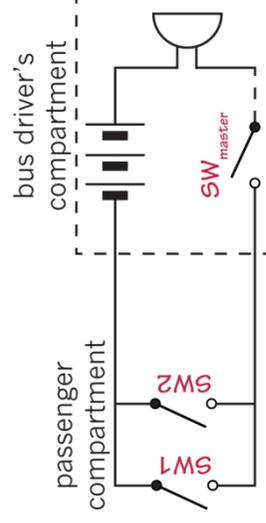

Figure 11: A circuit for passengers to tell the driver that they want to get off
Many buses have push switches for passengers to let the driver know they want to get off at the next stop. The circuit diagram might look like Figure 11. In this circuit diagram, there are two push switches for passengers. Any one of these switches can ring the bell next to the driver.
1. Copy Figure 11 and write SW1 and SW2 next to the two switches for the passengers.
The circuit in Figure 11 will work for the alarm system.
Hint: Look at Figure 11 again to see how dashed lines were used to show the part of the circuit in the bus driver's compartment.